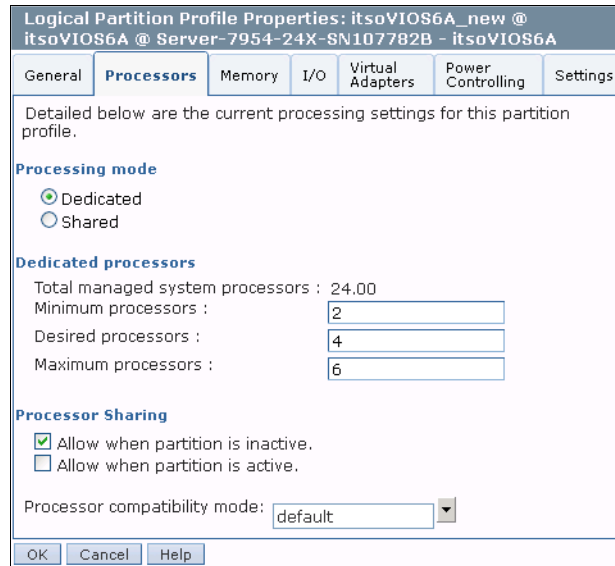

Figure 8-50 VIOS profile: Changing processor settings from HMC
3. In this example, click the **Processors** tab to access the processor settings that were made by the Create Partition wizard. The window that is shown in Figure 8-50 on page 402 opens. Values can be changed in this window to match the current requirements for the VIOS virtual server. Change the minimum, desired, and maximum values, as needed.